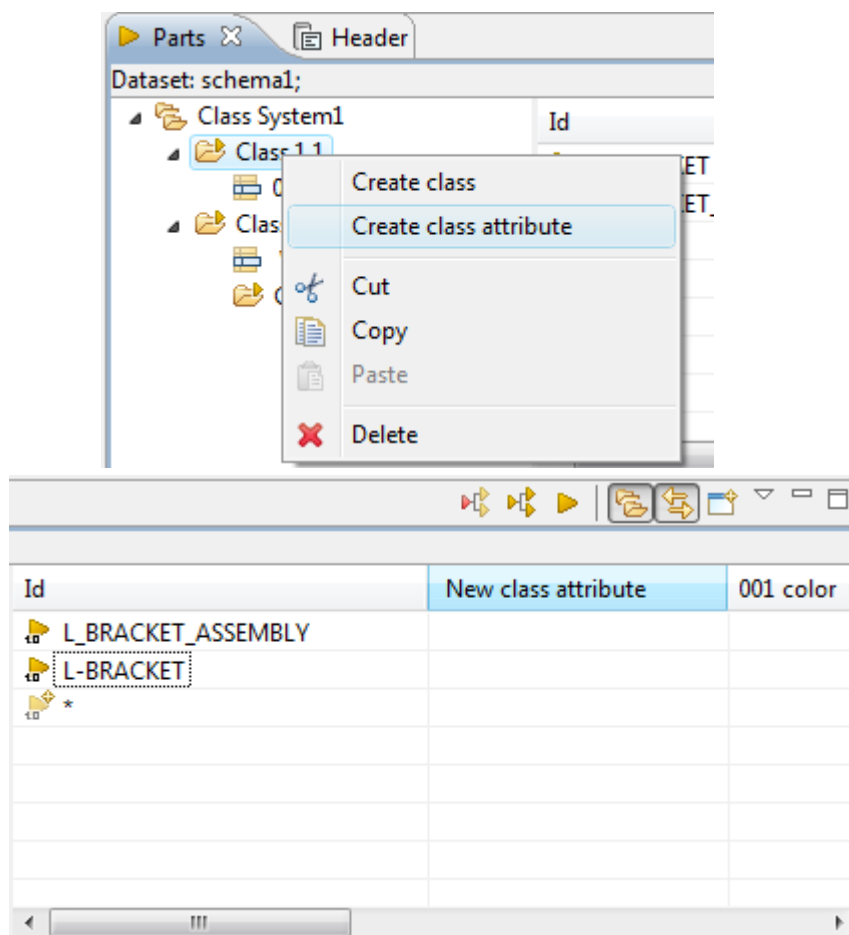

Figure 2. 'New class attribute' in the classification hierarchy (left) and in the table list (right)
- The  class attribute, named **New class attribute** appears in the hierarchy. Also a new column of the created class attribute appears in the table list of the classification the class attribute is assigned to (see Figure 2).